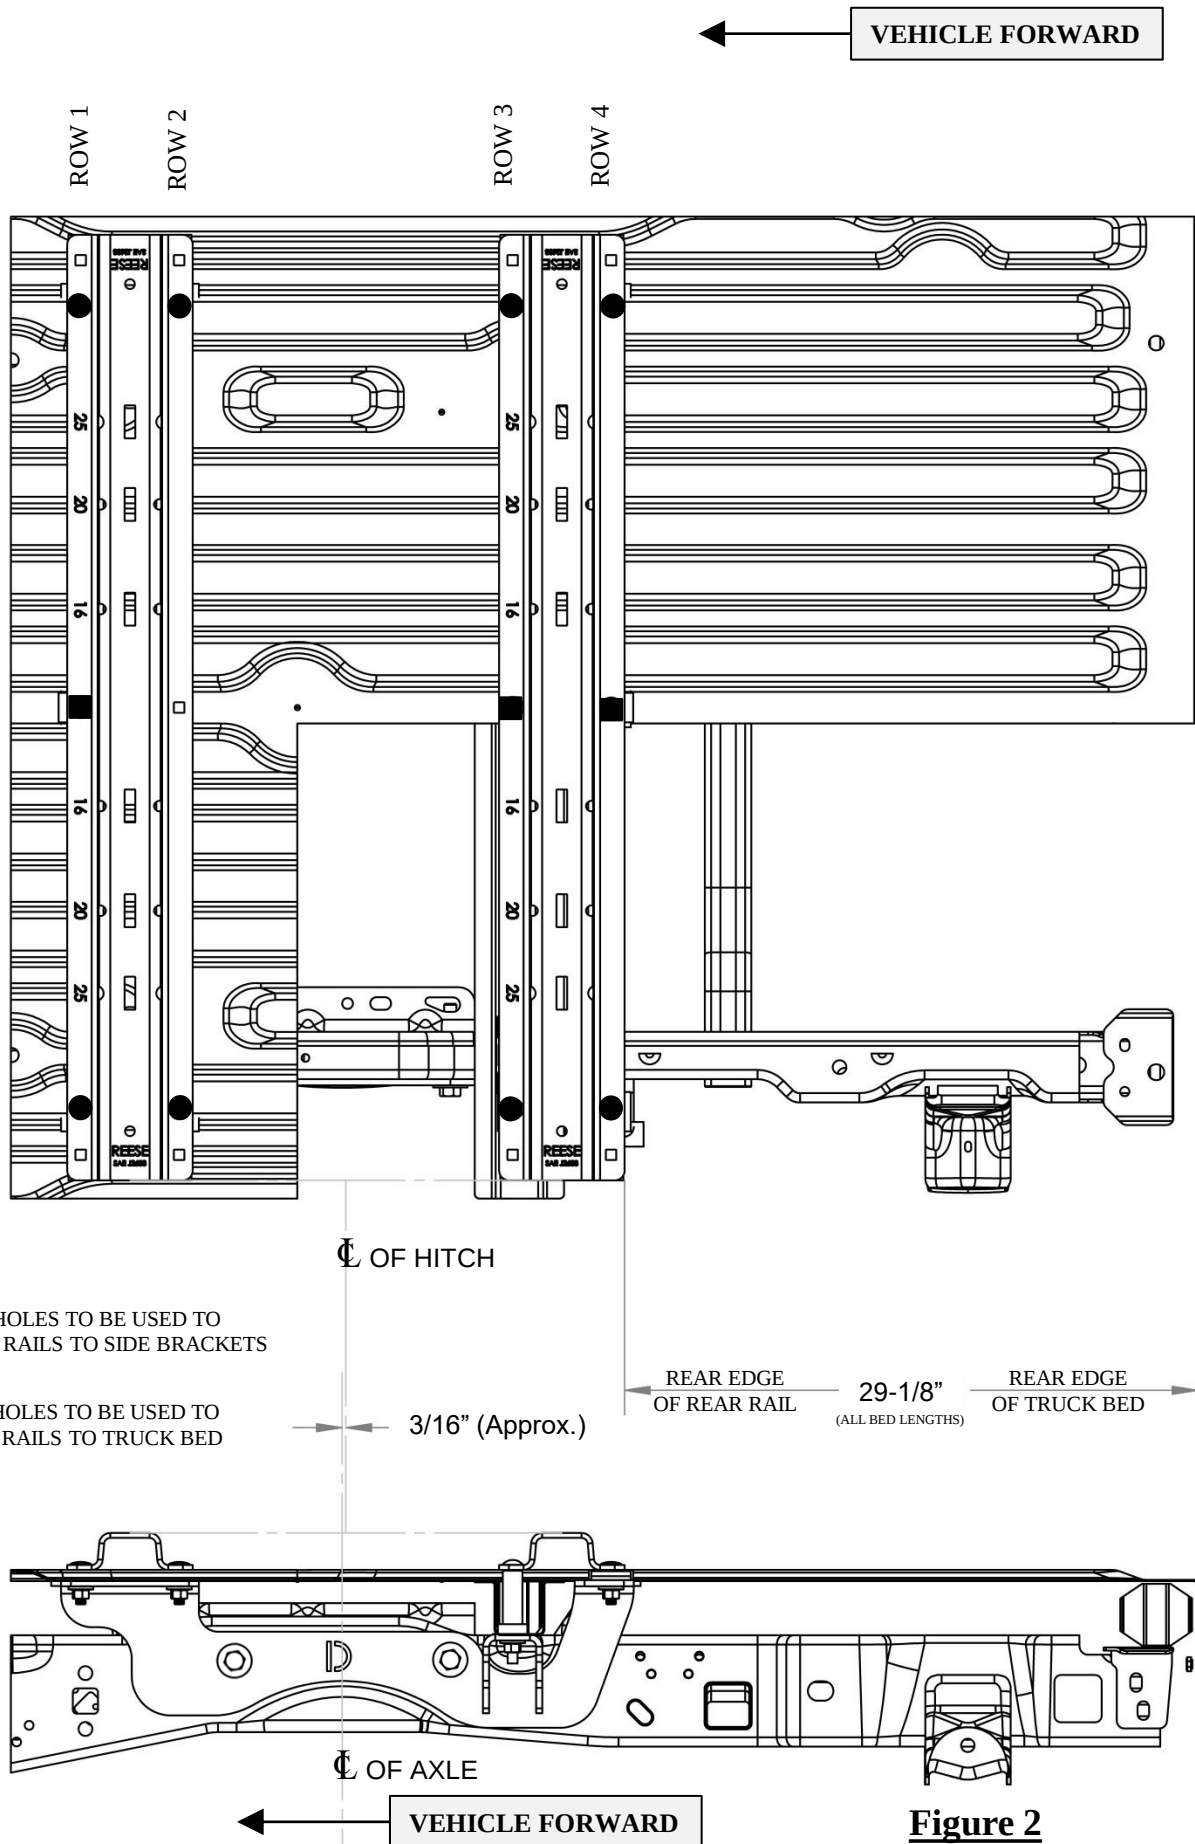

Figure 2
- 3.) Place the rear mounting rail in the box of the truck, using your tape measure, center the rail between the weld seams on the length of the truck box floor/ or the wheel well and the proper distance from the rear edge of the truck. (See Figure 2)
- 4.) Mark and center punch the holes as per the illustrations. Move the rail out of the way and drill each position with a 1/8" drill bit. (See Figure 2) **ENSURE THE 1/8" HOLES DRILLED IN ROW 3 PASS THROUGH BOTH THE TRUCK BED AND THE TRUCK BED CROSSMEMBER**
- 12.) Install the rear rail attachment bolts as shown in figure (3). Ensure that the galvanic isolator patches (11) are installed on the U-shaped spacers and spacer blocks as shown. (See figures 4 & 5) Attach the 1/2" conical washers (14) and hex nuts (13) on the bottom side of the frame bracket (16) & (17) , as per figure 3, and tighten snug to keep the mounting rail from moving. For the bolts in row 3 (figure 2 & 6), which goes through the truck bed cross member/sill/hat section, route the 1/2-13 x 5.50 Carriage bolt (2) through the rail and tube spacer (18) and 1/2 x 1 x 2 spacer (3), and secure using the .250 x 1.5 x 3 spacer (5), 1/2 conical washer (14), and 1/2-13 nut (13). For the center rail bolt in row 4 of rail attachment bolts, route a 1/2-13 x 2.00 Carriage Bolt (15) through the rail and bed, with a 1/2 x 1 x 2 spacer (3) between the rail and bed. Then secure using a .250 x 1.5 x 3.00 spacer (5), 1/2 " conical washer (14) and 1/2-13 nut (13). **See Figure 6 for a detailed view of the bolts in row 3.**
- 14.) Mark and center punch the holes in the front mounting rail as per figure 2. Move the front mounting rail and the frame mounting brackets out of the way, and drill with a 1/8" drill bit.